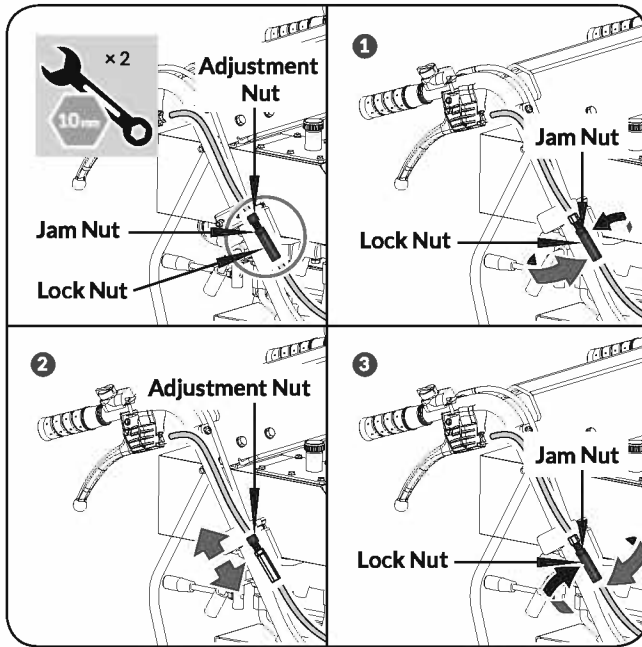

**Figure 5**
1. Loosen the jam nut by turning it counter clockwise with 10mm wrench. (see **Figure 5, Illustration 1**)
2. Tighten or loosen the cable by turning the cable adjustment nut clockwise or counter clockwise with 10mm wrench until you have reached your required tightness. (See **Figure 5, Illustration 2**)
3. Once tightness is set, return the jam nut against the handle to hold the cable in place. (See **Figure 5, Illustration 3**)